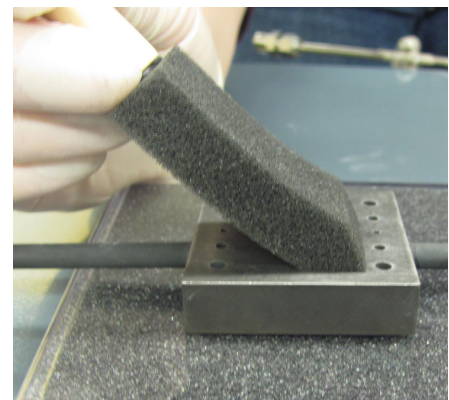

Figure 20
13. Apply approximately 0.5 grams of LSM ink in a thin even coat on the active area of the cathode manifold (Figure 20). Do not apply ink to the gas ports.